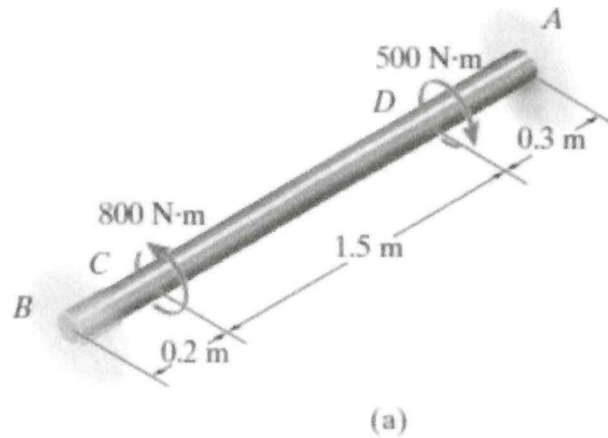

Figure Q6(b)
- (b) The solid steel shaft shown in **Figure Q6(b)** has a diameter of 20 mm. If it is subjected to the two torques, calculate the reactions at the fixed supports A and B. (8 marks)